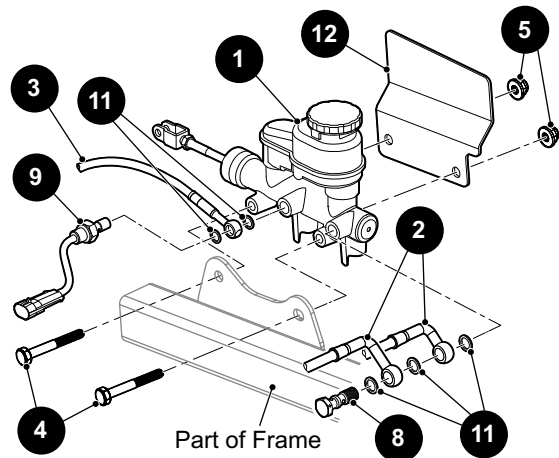

Fig. 4 Master Cylinder
WARNING DO NOT re-use crush (11) washers (Ref. Fig. 4).
2. Place a drain pan under the master cylinder (1) (Ref. Fig. 4).
4. Disconnect the front brake lines (2) from the master cylinder (1) by removing banjo bolt (8) and crush washers (11).